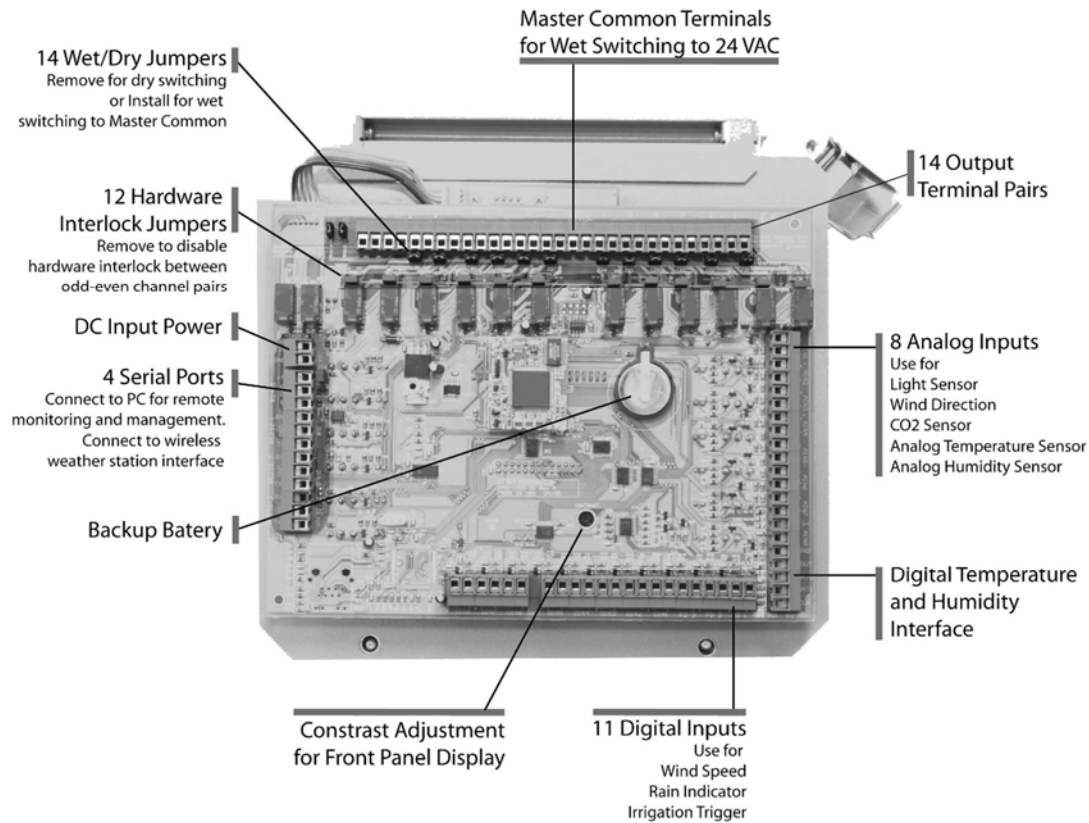

Figure 4.6 Internal Layout of the iGrow 1400™ PCB
Figure 4.6 shows how the iGrow 1400™ looks on the inside. Take notice of the board and familiarize yourself with the internal layout before beginning the wiring process.
6. Locate the DC Input Power terminal along the left edge of the PCB. See Figure 4.6 and Figure 4.7.